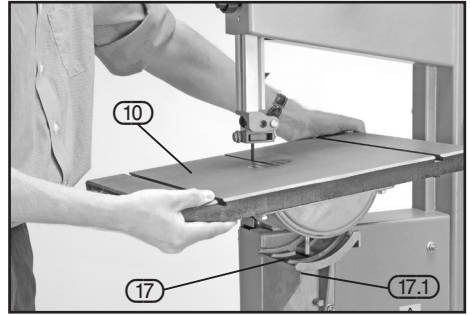

FIG. 1
8.1 INSTALLING THE TABLE – FIG. 1